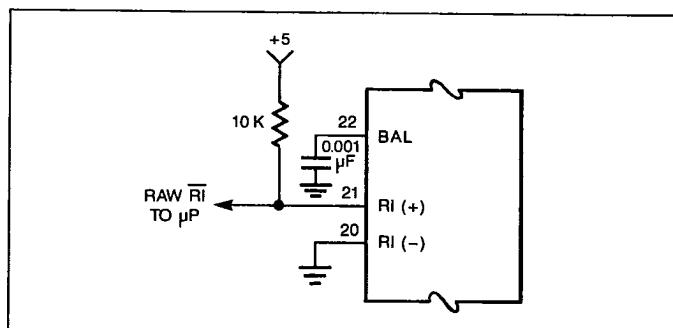

Figure 6a. Simple Ring Detect
To reduce the component count, the circuit shown in Figure 6a can feed directly to a microprocessor input port and the signal debouncing can be done in software. The pulse frequency during the ring is twice that of the signal from the phone company central office (CO).